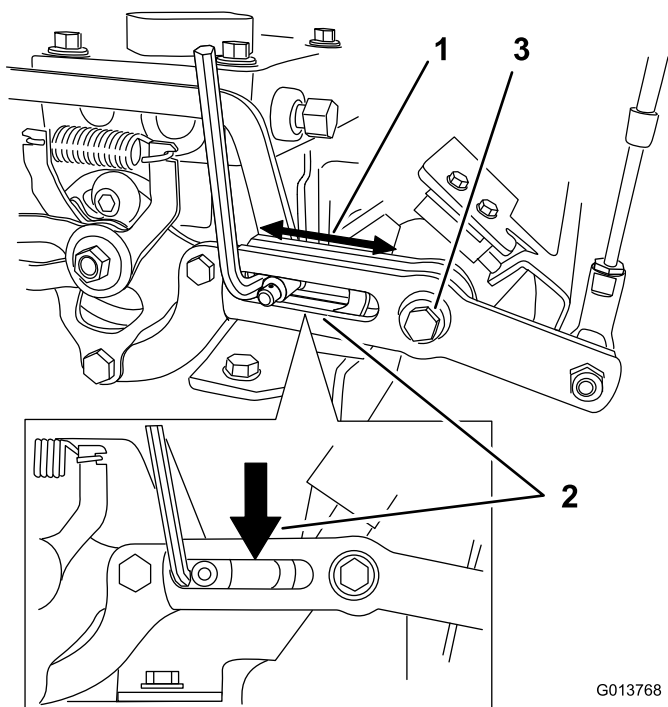

Figure 12
8. While pulling the control fork assembly rearward (not so hard that the speed control linkage moves) tighten the screw that goes through the center of the left hand shoulder hub (Figure 12).